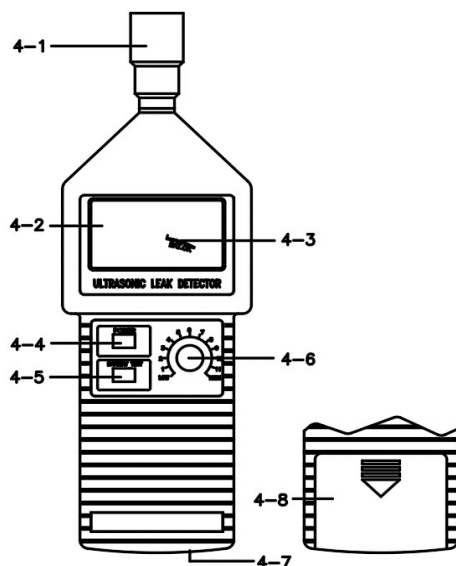

Fig. 1
- (1) Plug in the optional earphone into the "Earphone Jack"(4-7, Fig. 1) if so desired.
- (2) Press the "Battery Test Button"(4-5, Fig. 1) to check the battery level. The LED display panel will lit in "BAT. OK" position if it is adequately powered, otherwise, the battery should be replaced.
- (3) Press and hold the "Power Button"(4-4, Fig. 1) during the whole measuring period.
- (4) Set the "Sensitivity Setting Dial"(4-6, Fig. 1) to the "HIGH" position. (Note: The "Power Button" is still held down.
- (5) Approach the object under test from different angles and to different positions. The level of the audible tone and the level of the LED display panel will change in this process.
- (6) Try to locate a point or an aera where the audible tone is louder and the level of the LED display panel shows the maximum.
- (7) Change the "Sensitivity Setting Dial"(4-6, Fig. 1) to a lower setting. Repeat step (6).
- (8) Repeat steps (6) and (7) until the leaking source is located.
Press and hold the "Power Button"(4-4, Fig. 1) during battery level. The LED display panel will lit in "BAT. OK" position if it is adequately powered, otherwise, the battery should be replaced.
(2) Open the Battery Cover (4-8, Fig 1) at the back of tester and remove the battery.